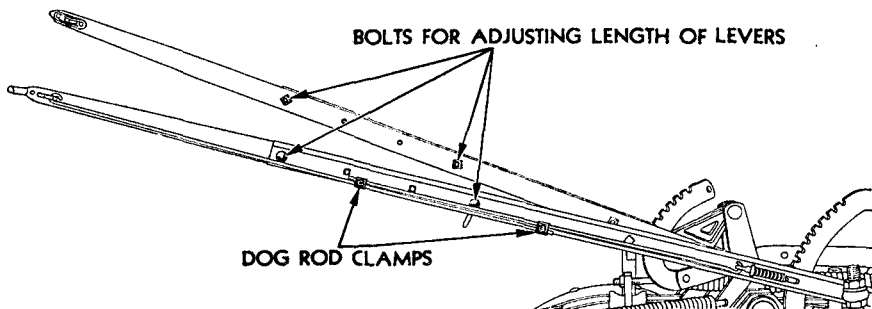

FIGURE 21—ADJUSTING LEVERS
C. Levers.—After plow is hitched to prime mover, adjust each lever so they are within convenient reach of the operator. (Figure 21.) **CAUTION:** Do not have levers too long. They may interfere with the operator, or be damaged by striking seat or fenders of prime mover when turning or going through deep furrows or ditches.